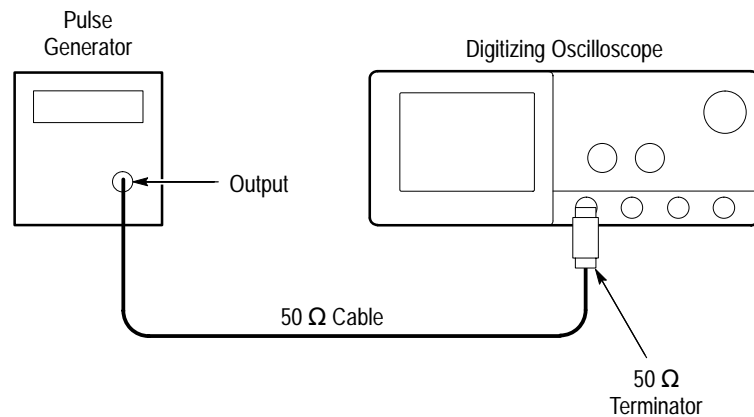

Figure 1–37: Setup for Sync Duty Cycle Test
- Connect the pulse generator through a 50  $\Omega$  cable and a 50  $\Omega$  terminator to the oscilloscope CH1 input. See Figure 1–37.
- Turn the pulse generator **OUTPUT (VOLTS)** control until the signal on the oscilloscope shows a one division negative going pulse. See Figure 1–38.